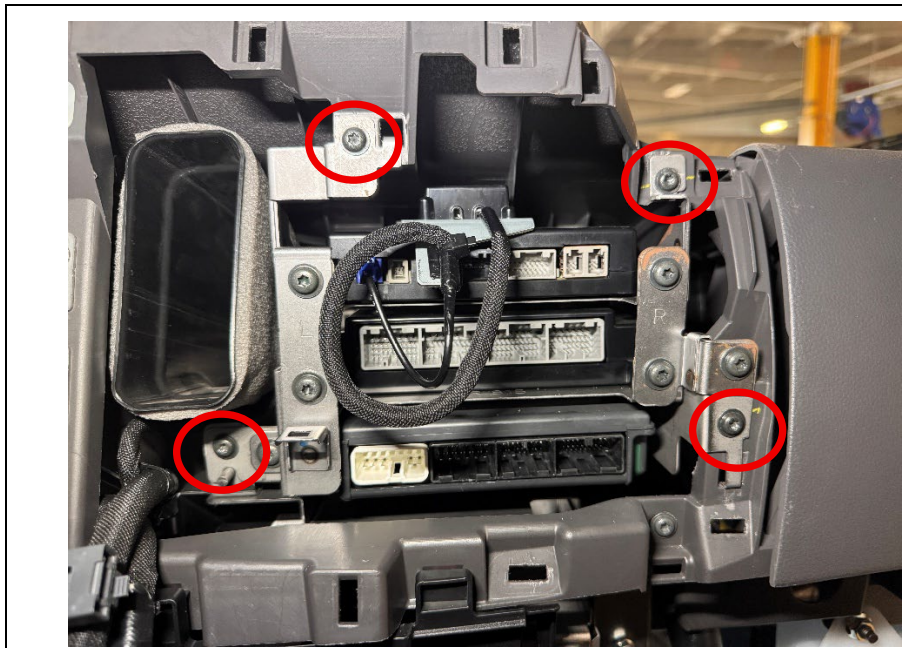

Figure 49
49. Install the module stack in the instrument panel with the four (4) longer type T25 screws and tighten to 17.7 in. lb.. (See Figure 49.)